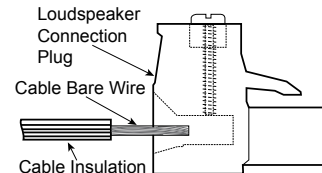

Figure 3
- Insert the Loudspeaker Hookup Cable bare wire end into the Connection Plug opening. Refer to figure 3.